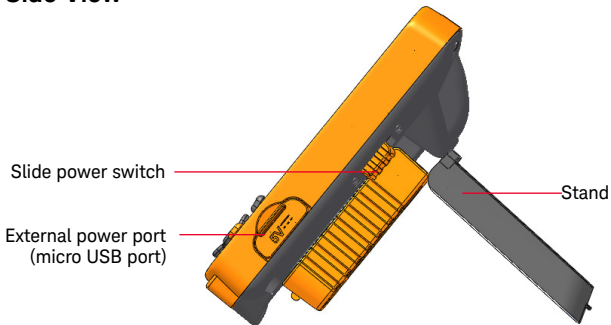

Figure 3 Side view of the U1115A Remote Logging Display (standing position)
- 1 Plug the micro USB head to the micro USB port on the side of the U1115A (refer to Figure 3).